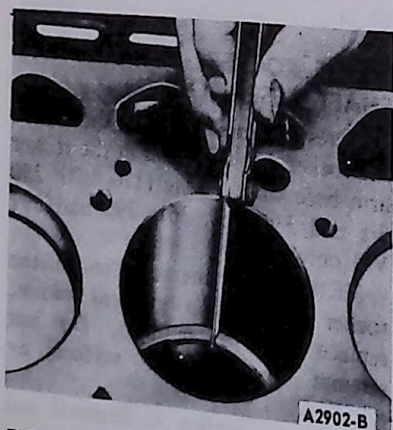

FIG. 28 Checking Piston Ring Gap
5. Measure the gap between the ends of the ring with a feeler gauge (Fig. 28). If the ring gap is less or greater than the specified limits, try another ring set.